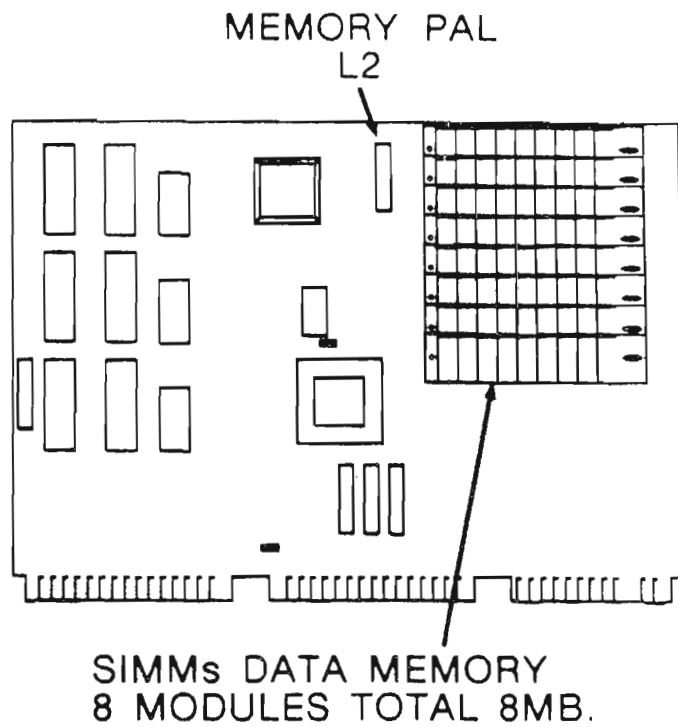

Figure B-1. Enhanced Micro VP CPU/Memory PCB Components Layout
- 3) Replace the PAL chip at PCB location L2 with the PAL chip supplied in kit (Ref. Figure B-1).
- 4) Remove the four (4) 256KB SIMMs Modules (Ref. Figures B-1 and B-2).
- 5) Insert two (2) 1MB SIMMs Modules from the kit into the first two (2) empty SIMMs sockets starting at the bottom of the SIMMs connectors (Ref. Figures B-1 and B-3).
- 5) Insert four (4) 1MB SIMMs Modules from the kit into the first four (4) empty SIMMs sockets starting at the bottom of the SIMMs connectors (Ref. Figures B-1 and B-3).
- 4) Remove the four (4) 256KB SIMMs Modules (Ref. Figure B-1 and B-2).
- 5) Insert eight (8) 1MB SIMMs Modules from the kit into the eight (8) empty SIMMs sockets at the bottom of the SIMMs PCB connectors (Ref. Figures B-1 and B-3).
- 4) Insert the two (2) additional 1MB x 9 SIMMs Modules from the kit into the first two (2) empty SIMMs sockets at the bottom of the SIMMs connectors (Ref. Figures B-1 and B-3).
- 4) Insert the six (6) additional 1MB x 9 SIMMs Modules from the kit into the first six (6) empty SIMMs sockets at the bottom of the SIMMs connectors (Ref. Figures B-1 and B-3).
- 4) Insert the four (4) additional 1MB x 9 SIMMs Modules from the kit into the first four (4) empty SIMMs sockets at the bottom of the SIMMs connectors (Ref. Figures B-1 and B-3).